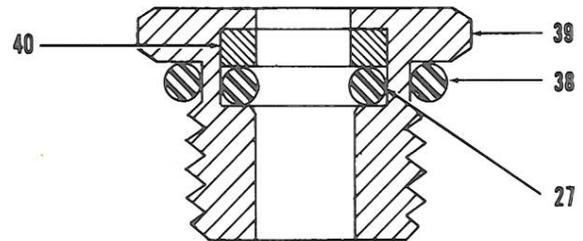

FIGURE 9
B. **Reserve Cap Assembly (Figure 9):**
Inspect the undercut in the cap (Item 39) for any chips. Lubricate, then assemble O-ring (Item 27) inside the undercut. The backup O-ring (Item 40) must not be lubricated and is assembled next as in Figure 9. Lubricate and assemble the outside O-ring (Item 38) as per figure